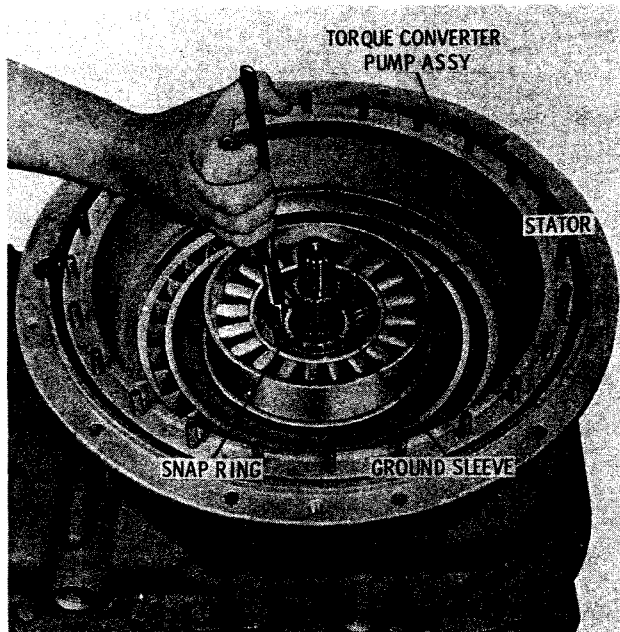

Fig. 5-11. Removing stator snapping
(2) Remove the snapping that retains the converter stator and remove the stator from the converter ground sleeve (fig. 5-11).